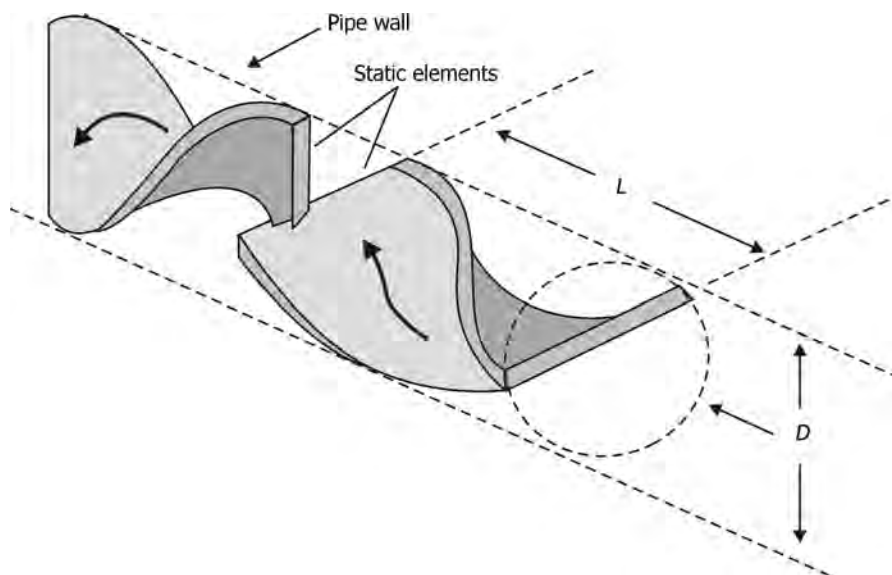

FIGURE 6.17 An in-line static mixer.
- Figure 6.17 illustrates a typical in-line static mixer.